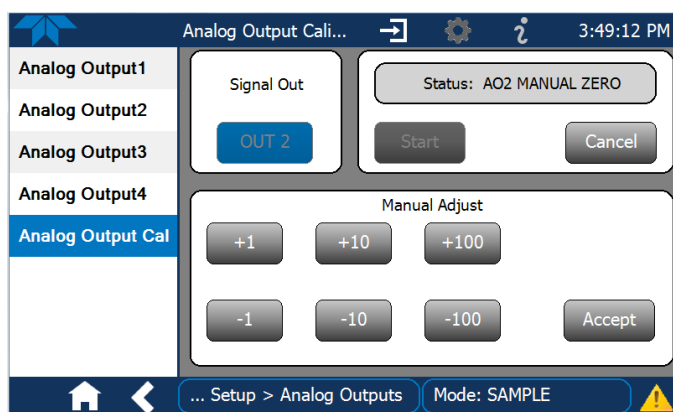
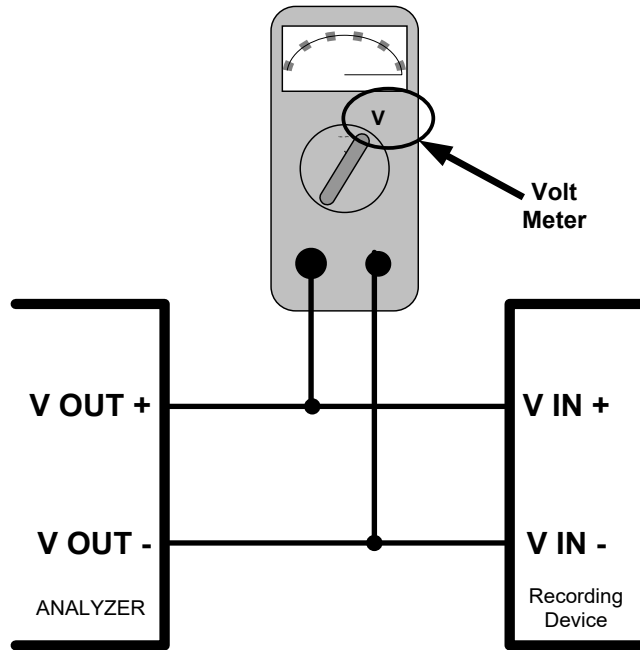

Figure 2-40. Analog Outputs Manual Calibration Screen (AOUT2 Example)
Figure 2-41. Setup for Checking / Calibrating DCV Analog Output Signal Levels
- MANUAL for individual calibration (Figure 2-40) of analog outputs where manual adjustments can be made (the only calibration type allowed when Current is selected for the Range). See Sections 2.5.8.1 and 2.5.8.2 .
It is possible to manually calibrate the voltages by using a voltmeter connected across the output terminals (Figure 2-41) and changing the output signal level in the Manual Adjust field of the Analog Outputs Calibration screen (Figure 2-40). Refer to Table 2-13 for voltage tolerances.